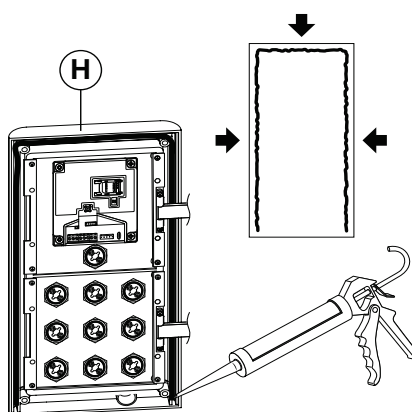

Fig. 67
⚠ In order to prevent water ingress it is highly recommended that a silicon sealant is used between the module support frame (H) and the flush box. The silicon sealant should be used on the left, top and right sides only of the module support frame. Don't use silicon sealant on the bottom side of the module support frame (H) (Fig.67);